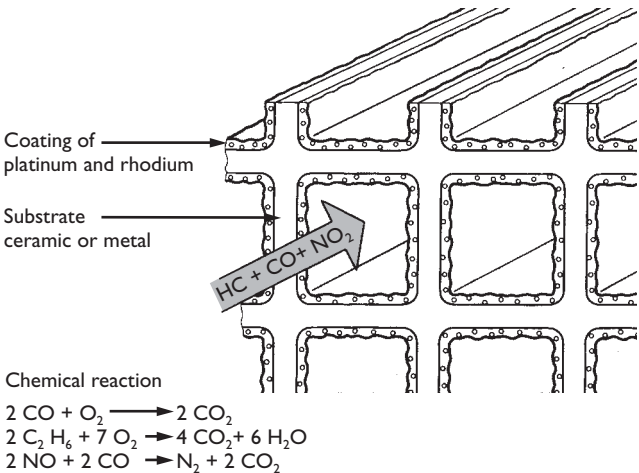

Figure 8.6 Catalytic converter and the chemical process
Figure 8.6 shows a magnified view of the inside of a catalytic converter, known as a ceramic monolith. This ceramic is a magnesium aluminium silicate and, due to the several thousand very small channels, provides a large surface area. It is coated with a wash coat of aluminium oxide, which again increases its effective surface area several thousand times. 'Noble' metals are used for catalysts. Platinum helps to burn off the hydrocarbons (HC) and carbon monoxide (CO), rhodium helps the reduction of nitrogen oxides (NOx). The whole three way catalytic converter only contains about three to four grams of these precious metals.